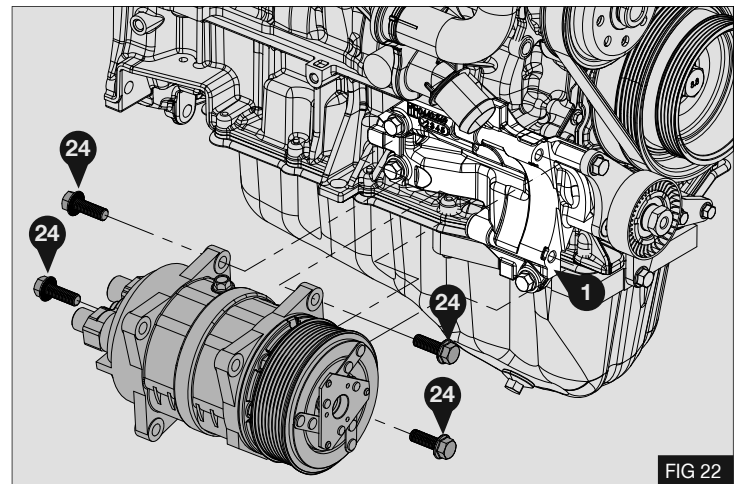

FIG 22
2. Install the modified compressor to the mounting bracket (1) using 4x M10 x 30 Bolts (24). - Fig 22